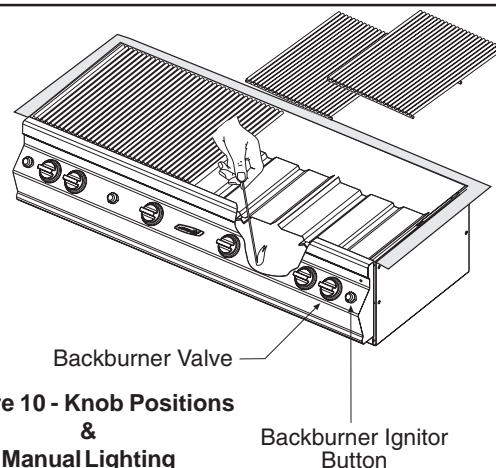

Figure 10 - Knob Positions
**REMEMBER:** FOR SAFE MANUAL LIGHTING, PLACE A BURNING MATCH OR BUTANE LIGHTER BESIDE THE BURNER - THEN TURN ON THE GAS (Figure 10).